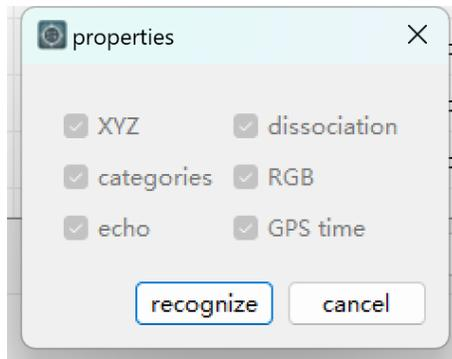

Figure 3-175 Point cloud format transform attributes
- Click the <Properties> button, a dialog box will pop up (Figure 3-175), you can select the properties of the exported file, and click <OK> to complete the export.